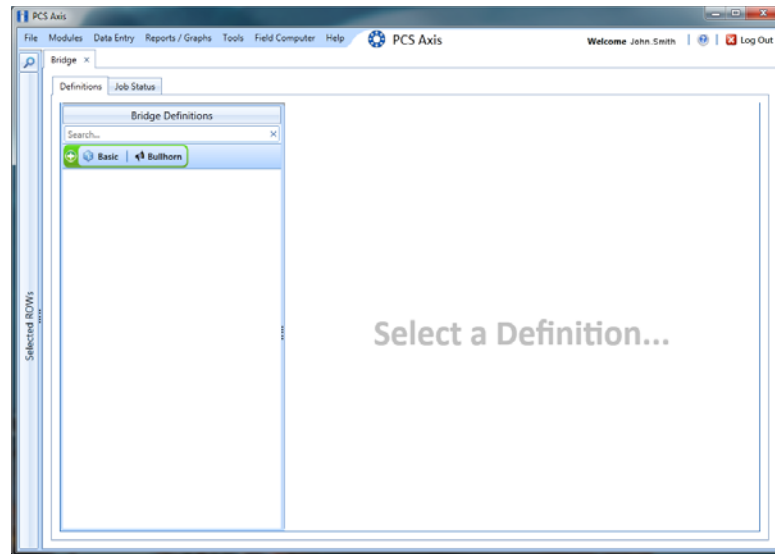

Figure 9-44. Bridge
- 2 Click **Tools** > **Bridge** to open the *Bridge* window (Figure 9-44).